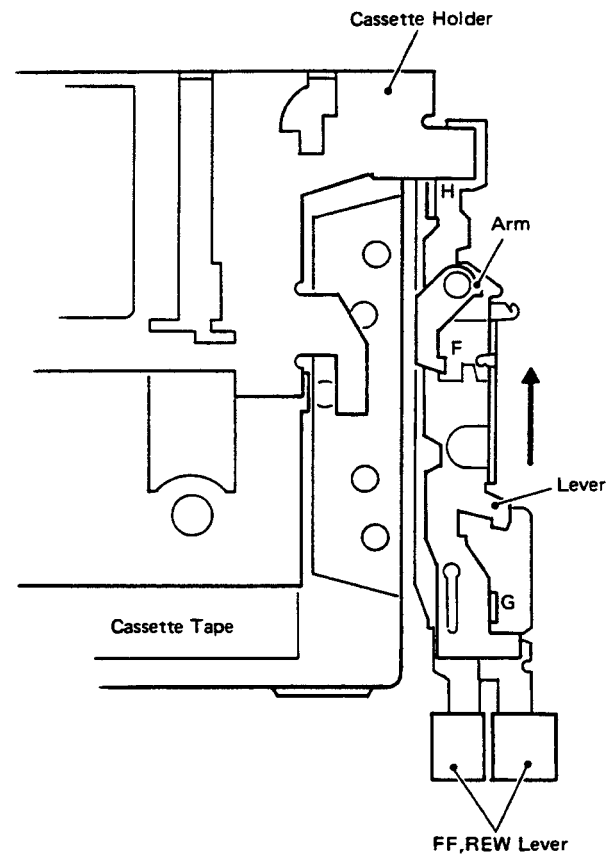

Fig. 25
4. Point H of the lever of Fig. 25 pushes against the cassette holder to eject the cassette tape.